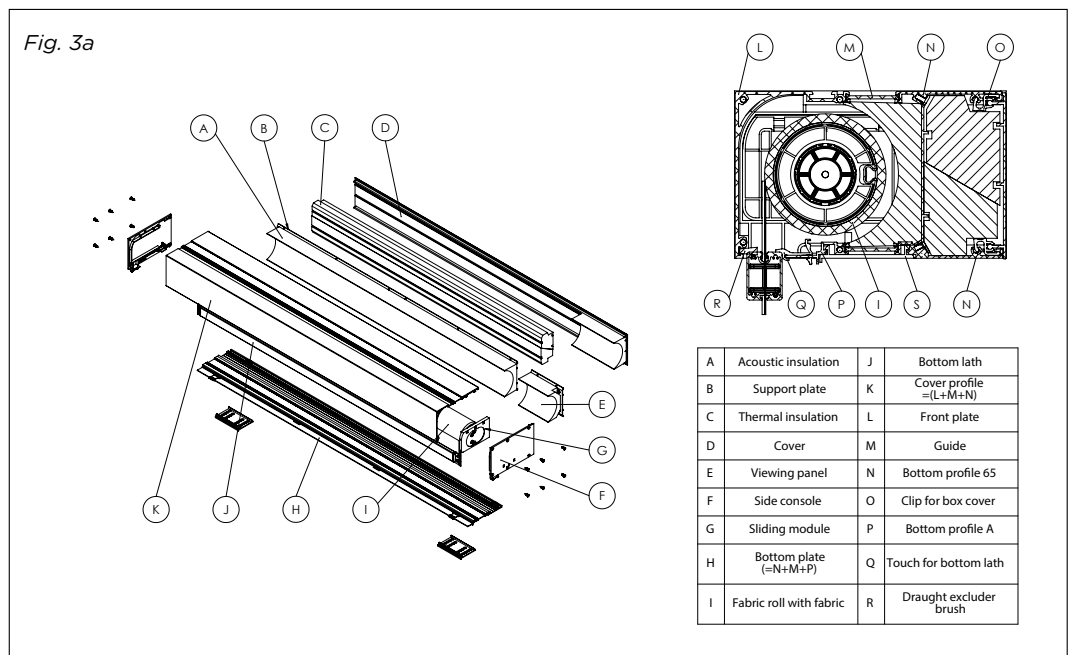

Figure 3a:
The outer frame of the box for the surface-mounted screen is made up of three parts: the bottom plate (H), the cover profile (K) and the cover (D). In addition to the thermal (C) and acoustic (A) insulation, both of which are separated by the support plate (B), the box also contains a removable roll (I) with fabric. The sides are closed using side consoles (F). (See Figure 3a.)